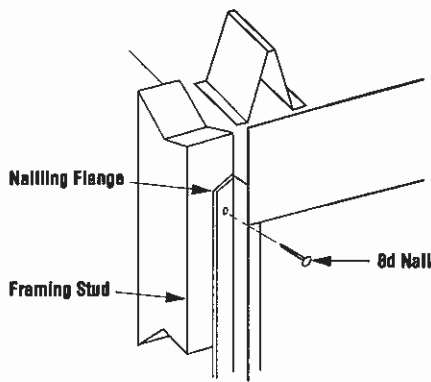

Figure 14
**Step 5.** Firebox should be secured to side framing members using nailing flanges. Use 8d nails (Figure 14).